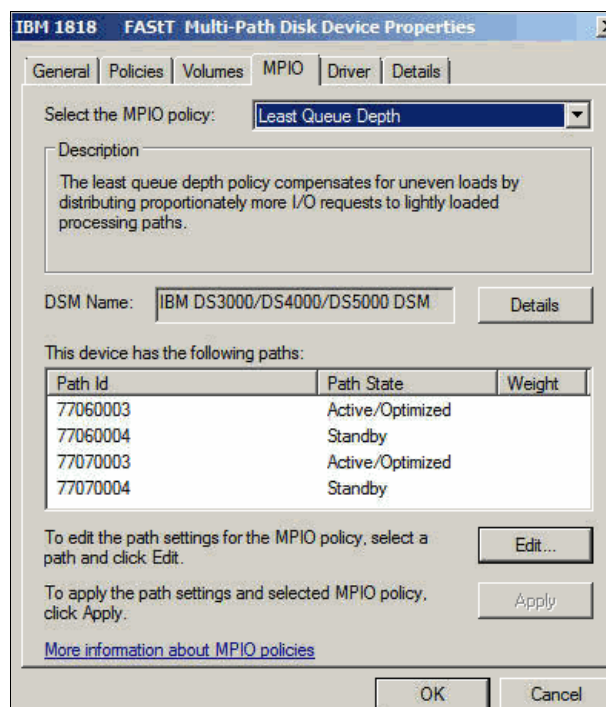

Figure 2-93 Verification of the MPIO tab
- On the MPIO tab, we have Least Queue Depth, which is the default setting, and we are not making a change to anything on this tab. Also on this tab are the paths, and we notice that there are two with a Path Id of 77060004. It is the path to controller B and is in standby status. Two with Path Id of 77060003 are in Active/Optimized state and are to controller A, again telling us that the multipathing is working, as shown in Figure 2-93.